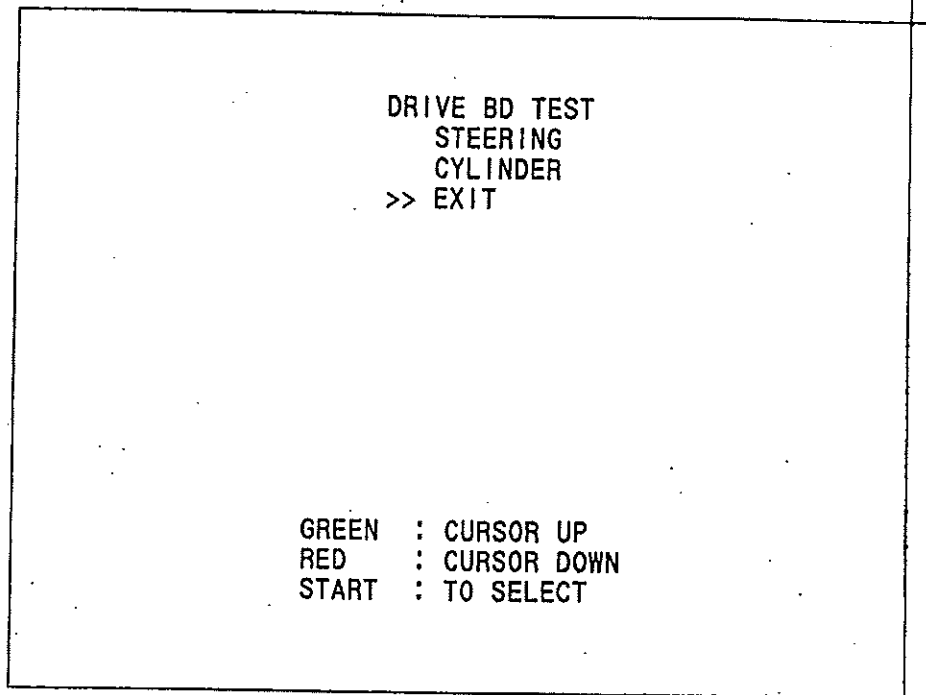

FIG. 10.8 DRIVE BD TEST
This test is comprised of 2 screens of which one allows the Steering Wheel Reaction Mechanism to be checked, and the other enabling Seat Moving Mechanism to be checked. Select "DRIVE BD TEST" on the MENU screen (Fig. 10.2) to have the screen (as shown in Fig. 10.8 a) appear. By using the SERVICE SW or VR1 (red) or VR4 (green), bring the arrow (>>) to the desired test item.
Fig. 10.8 c CYLINDER TEST
Choosing "CYLINDER" in Fig. 10.8a causes Fig. 10.8 c screen to be displayed. This screen allows Seat movement mechanism, etc., to be checked. Move the arrow (>>) by using the SERVICE SW or VR SW1 (red) or VR SW4 (green). Check if the Seat movements are in accordance with the setting pointed by the arrow and the ENTRY LAMP lights up. On this screen, periodically check if the movements are in compliance with the settings.
- EXIT To return to the MENU screen (Fig.10.8 a).